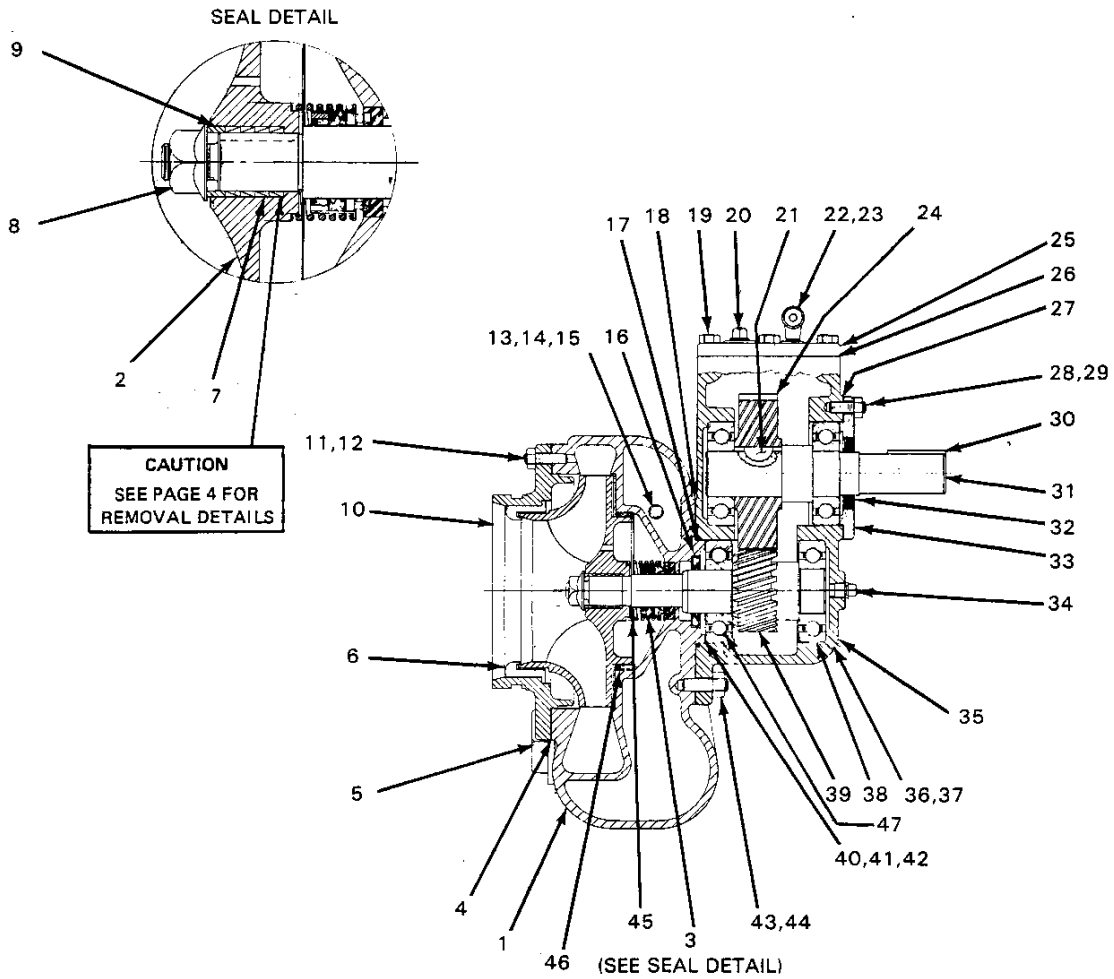

Figure 1. Pump Model 06D15-GA
This pump requires little service due to its rugged, minimum-maintenance design. If it becomes necessary to inspect or replace components, however, follow these instructions, which are keyed to the sectional view (see figure 1) and the accompanying parts list.
Reinstall the drive shaft bearing in the gearbox housing. Reinstall the drive gear key, and position the drive gear so that it engages the pinion shaft gear. Install the drive shaft and bearing. Inspect the oil seal (32) and replace as necessary. Reinstall the oil seal in the bearing cap, positioning the lip as shown in figure 1, replace the bearing cap gasket (27), and secure the bearing cap to the gearbox housing.
Replace the bearing shims. After final reassembly, shaft end play should fall between .005 and .012 inches; add or remove bearing shims to reach this recommended tolerance. Inspect the oil seal, and replace as necessary. Reinstall the oil seal in the volute housing, positioning the lip as shown in figure 1.